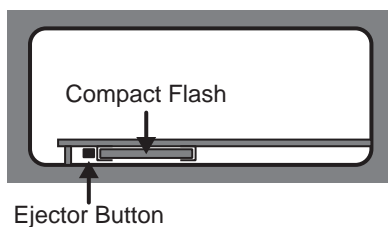

Figure 3 CompactFlash Ejector Button
7. Push in the **Ejector Button** to the left of the **CompactFlash** to eject the CompactFlash from the CF Slot (**Figure 3**). Remove the old CompactFlash from the CF Slot and return it to Ross Video.